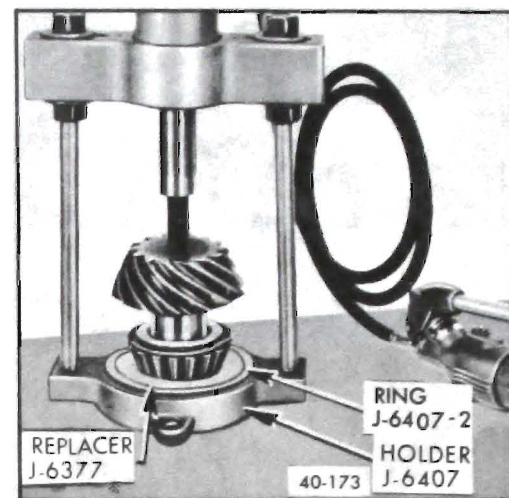

Figure 40-143 Installing Rear Pinion Bearing
3. Place correct shim (as determined in subpar. b) against head of pinion and install rear pinion bearing using Installer J-6377 and Holder J-6407 with Ring J-6407-2 in a press or as shown in Figure 40-143.